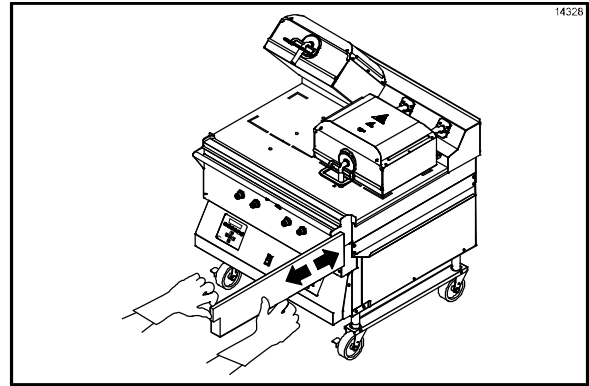

Figure 77
- Remove, empty, and reinstall the grease pans. (See Figure 77.)